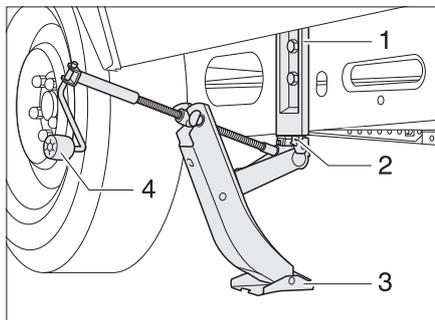

Fig. 188 AL-KO vehicle jack
- Always push in the insert profile (Fig. 188,2) of the AL-KO vehicle jack into the receiving pocket (Fig. 188,1) until it stops.
- Hold the AL-KO vehicle jack with one hand and with the other hand turn the hand crank (Fig. 188,4) clockwise until the base (Fig. 188,3) has ground contact and is level.